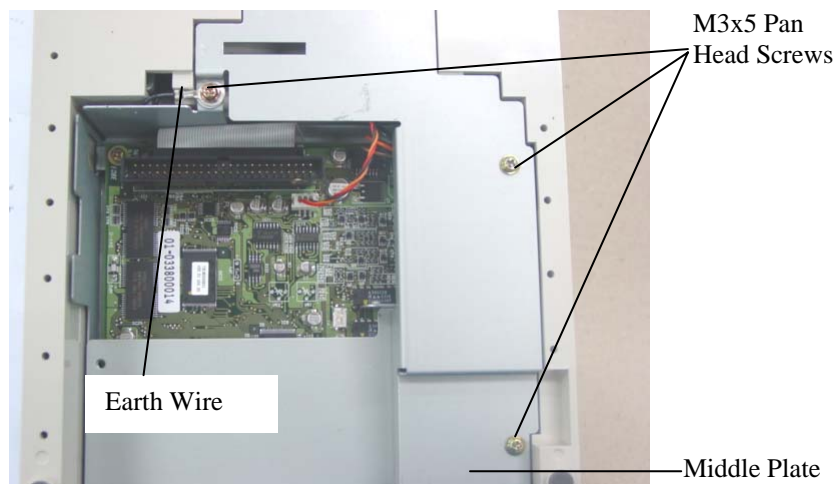

Figure 3 – Removal of Middle Plate
- Unscrew three M3x5 pan head screws and remove the Main PC board middle plate from the assembly. (Figure 3)